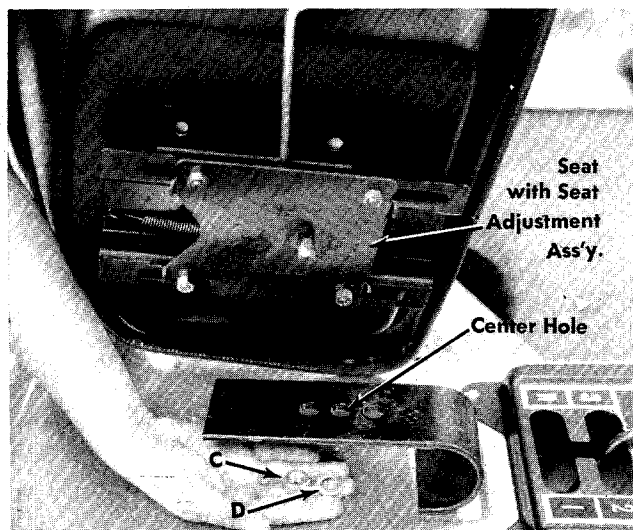

FIGURE 3. SEAT ASSEMBLY
- Step 5. Place seat and seat adjustment assembly on seat spring (center hole). Secure with Hex Nut (C) and Lockwasher (D). See figure 3.